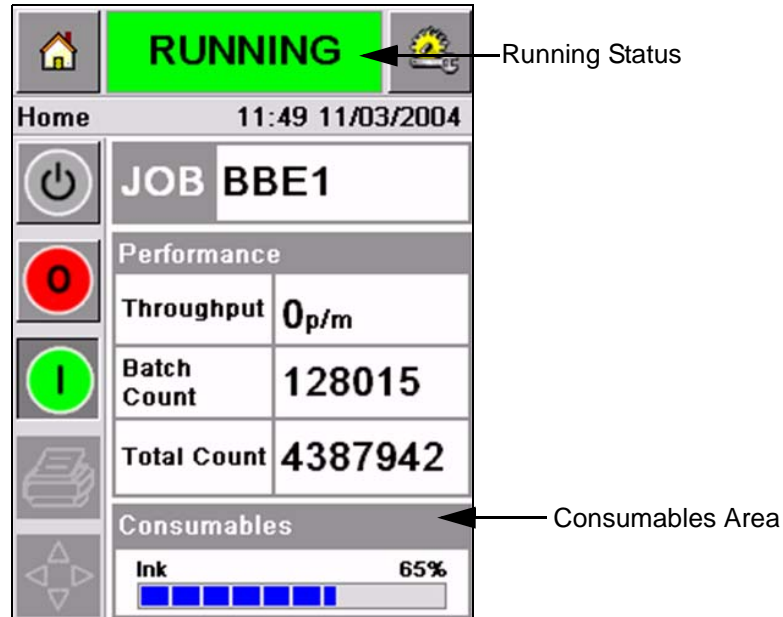
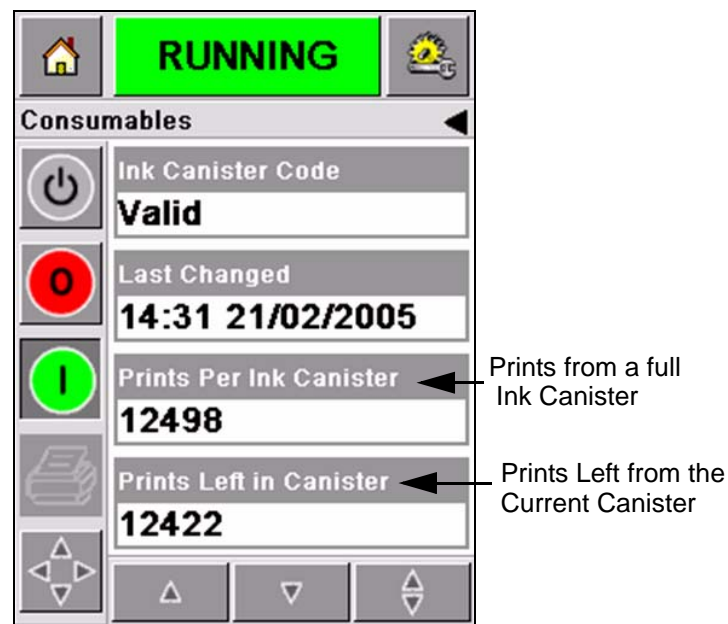

Figure 4-13: Consumables Area - Running
Figure 4-14: Number of Prints
- 1 Touch the *Consumables* area on the *Home Page* screen during the printer *Running* status (Figure 4-13 on page 4-11). The *Consumables* screen that displays the number of prints (Figure 4-14 on page 4-11) appears.